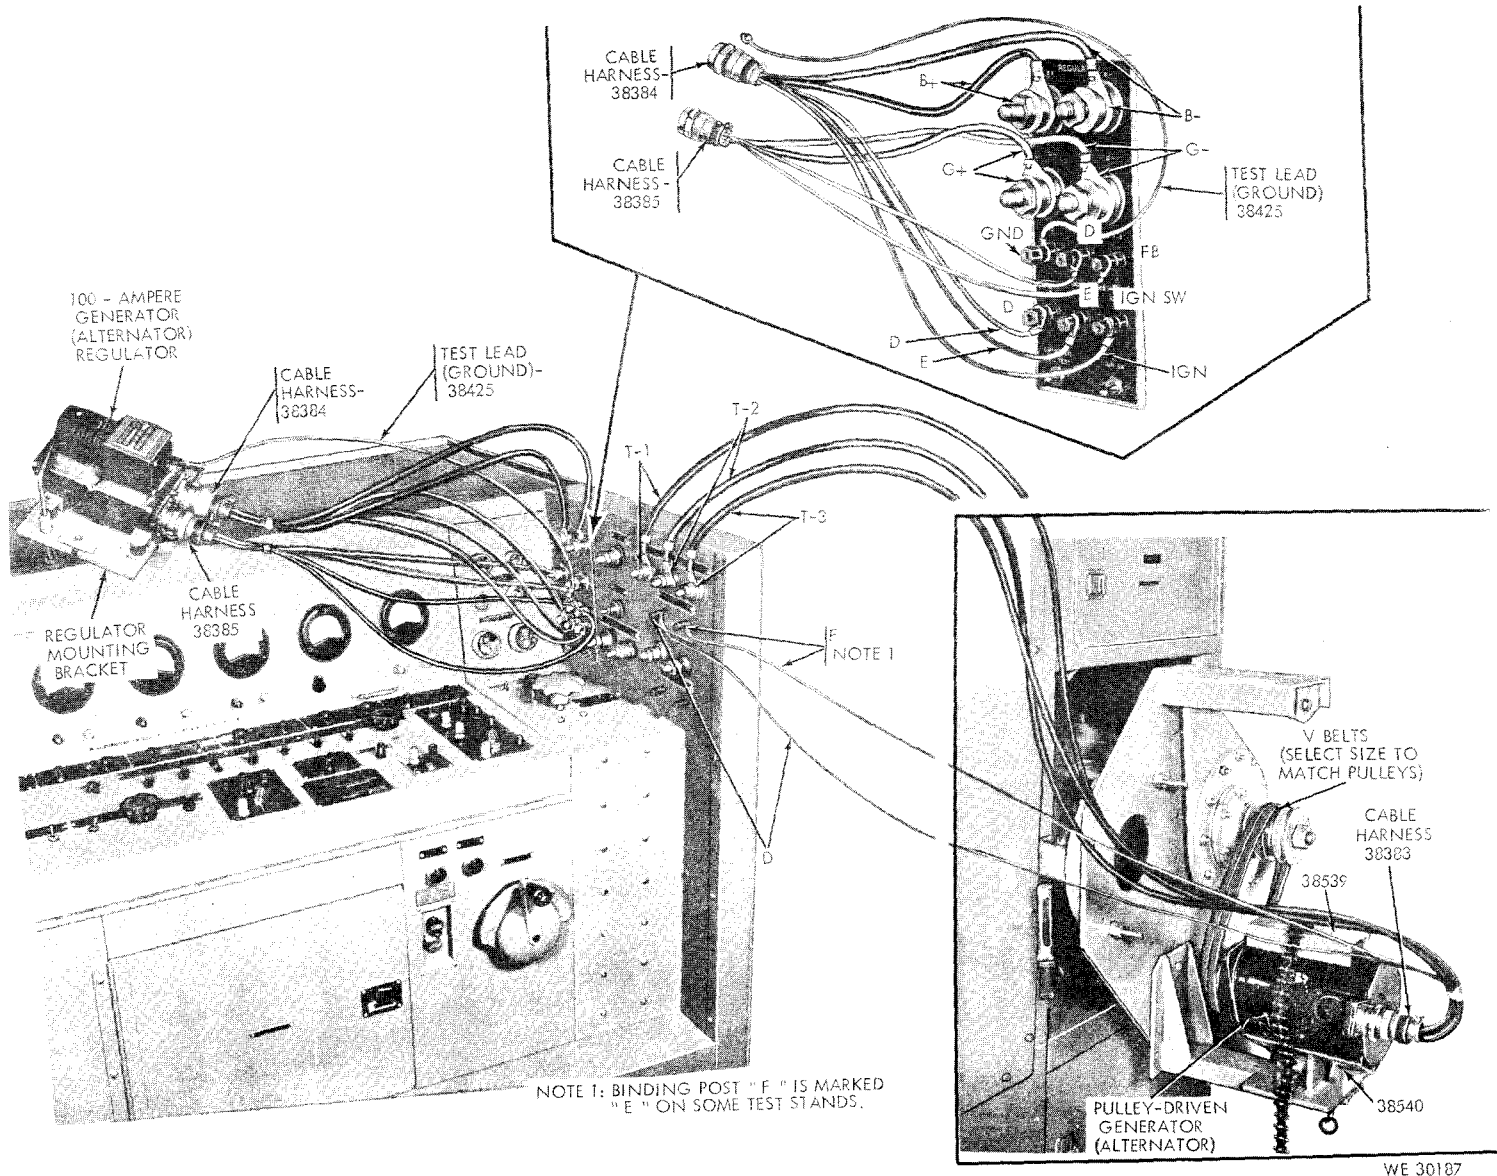

Figure 51. Testing the performance of the Leece-Neville Company no. R0013392RP ordnance no. 8699744 100-ampere generator (alternator) regulator.
The Leece Neville Company 100-ampere generator (alternator) regulator (figs. 51 and 52) is used in conjunction with the Leece Neville company 100-ampere generator (alternator) in either the pulley- or direct-driven types (par. 130b). The generator (alternator) regulator is designed to control the output voltage and current of a generator (alternator) by the pre-setting of three control units, which are the voltage regulator (carbon pile), line switch (load relay), and voltage adjusting rheostat. For detailed description of the components and control units refer to TM 9-7003, TM 9-2300-224-34/3, TB 9-2300-206-15, and paragraph 132b.
a. Purpose. This test is performed to indicate the functioning of the 3 control units of the 100-ampere generator (alternator) regulator (figs. 51 and 52) and whether setting adjustments are required to the units so they perform in accordance with manufacturer's specifications (*e*) below.
(1) Identifying number.
- (5) Mount the 100-ampere generator (alternator) regulator undergoing test on the regulator mounting bracket and connect it to the regulator binding posts (10, fig. 15) and the ac/dc system binding posts (9, fig. 15) using applicable harnesses and lead as shown in (fig. 51) (these harnesses and lead are listed in appendix II (figs. 73 and 74)).